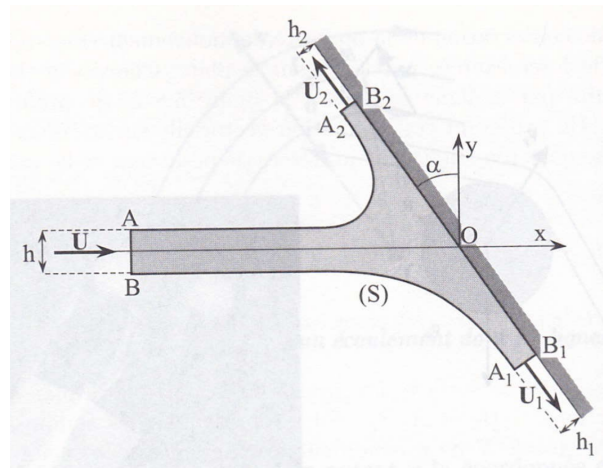

Figure 19: Choice of a stationary volume for a jet impacting a plate.
(1) We consider the two-dimensional problem of a jet impacting a fixed inclined flat plate (fig. 19). Viscous effects are neglected.